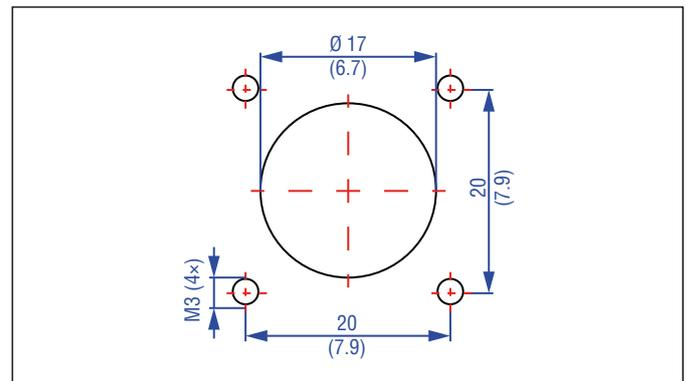

Fig. 55: Panel cut-out dimensions for the type »W« M12 panel mount connector
- Insert the contact carrier in the desired position into the metal flange until it snaps into place. The dimensions for attaching the metal flange to the cylinder are shown in Fig. 55.